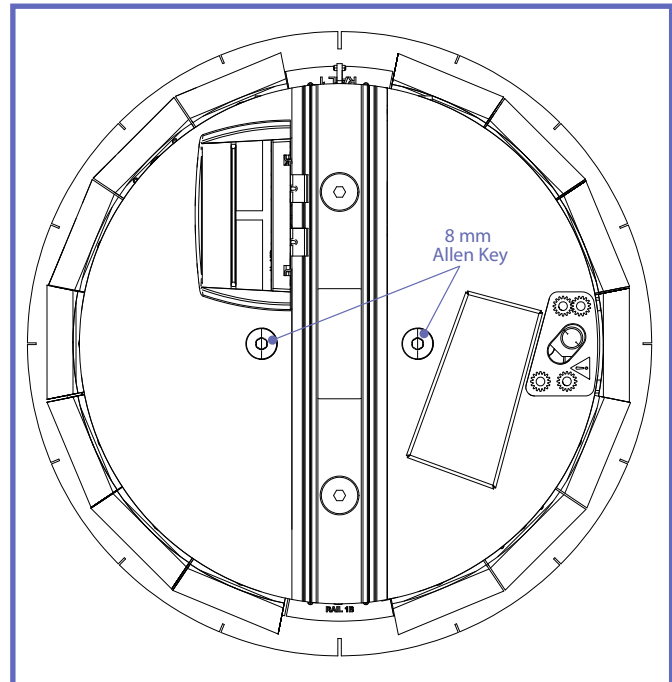

Fig. 4
1) Remove both covers, see Fig.4.